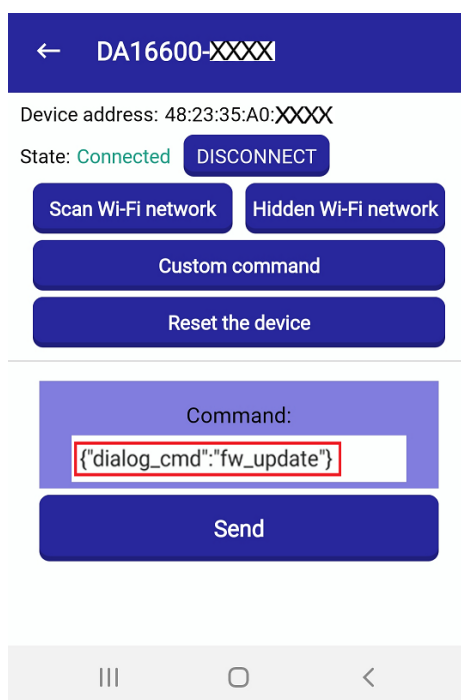

Figure 23: Provisioning Application – Custom Command
- Bluetooth® LE Mobile Application > Start DA16600-based > **Start** > Connect to "DA16600-BLE" > **Custom command** (see Figure 23), type the command `{"dialog_cmd": "fw_update"}` and click **Send**.